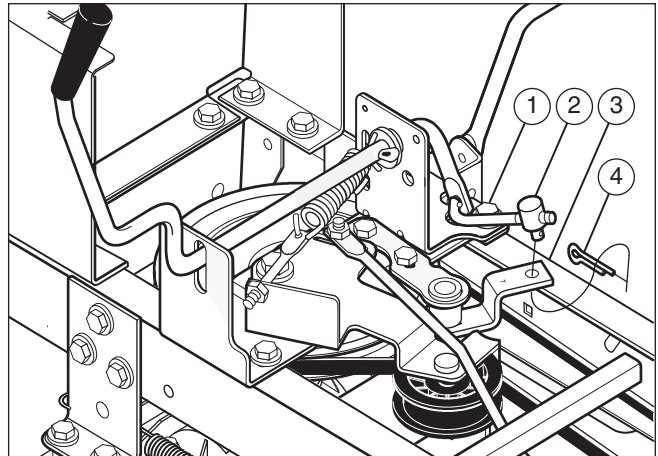

Figure 18
2. Disconnect the adjuster nut (2) from the shifter bracket (3) (see Figure 18).
7. Remove the adjuster nut (2) from the shifter bracket (3). Pull the motion drive belt over the shifter bracket (3) (see **Figure 18**).